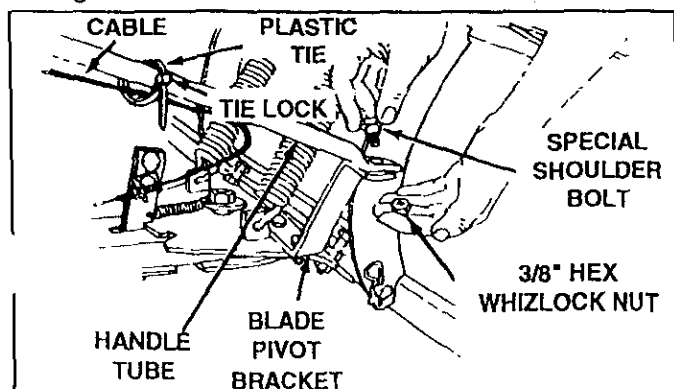

FIGURE 24
27. Wrap plastic tie around handle tube and cable, (see figure 24), assembling end of tie through lock. Pull plastic tie tight to retain cable to handle tube near front of tractor hood. Cut off extra plastic end.